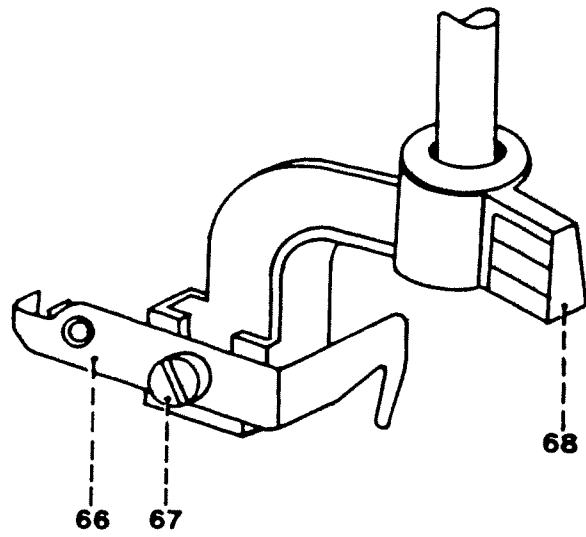

Fig. 27a
- Loosen screw 67 by just 1/8 of a turn (fig. 27a).